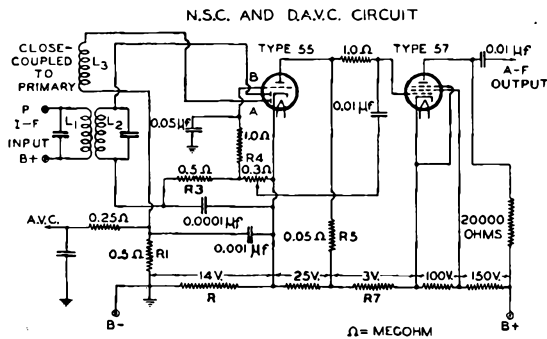

Fig. 27
Fig. 27 shows a circuit employing the 55 and 57 arranged to take advantage of the combined features of diode detection, d.a.v.c., and n.s.c. The diodes, A and B, of the 55 are employed to secure these effects. Diode A is the d.a.v.c. unit; diode B is the detector. The triode is the n.s.c. unit. When a carrier signal is applied across the input transformer, plate current flows from diode A through R and R_1 back to A. The bleeder resistor (R) provides a negative bias of 14 volts to A in order to obtain delayed a.v.c. A.v.c. voltage is obtained across R_1 when the peak signal is slightly greater than 14 volts. At the same time, B also passes plate current which causes a drop through the diode-load resistors (R_3 and R_4) to provide negative d-c bias for the 55 triode and a-f
To obtain this, the a.v.c. tube and the n.s.c. tube must be controlled by signal voltages obtained from separate inputs, and for a small amount of detuning, the signal actuating the n.s.c. tube must be reduced more sharply than that supplying the a.v.c. tube. One convenient method is shown in Fig. 27. The overall selectivity at the secondary (L_3) of the input transformer is greater than at the secondary (L_2), so that during the detuning process the signal on diode B is reduced to a greater extent than the signal on diode A. The selectivity of the secondary (L_3) is less than that of L_2 because L_3 is more closely coupled to the primary (L_1). This arrangement can be utilized to provide the desired suppression appreciably before the a.v.c. action increases the receiver sensitivity to maximum.